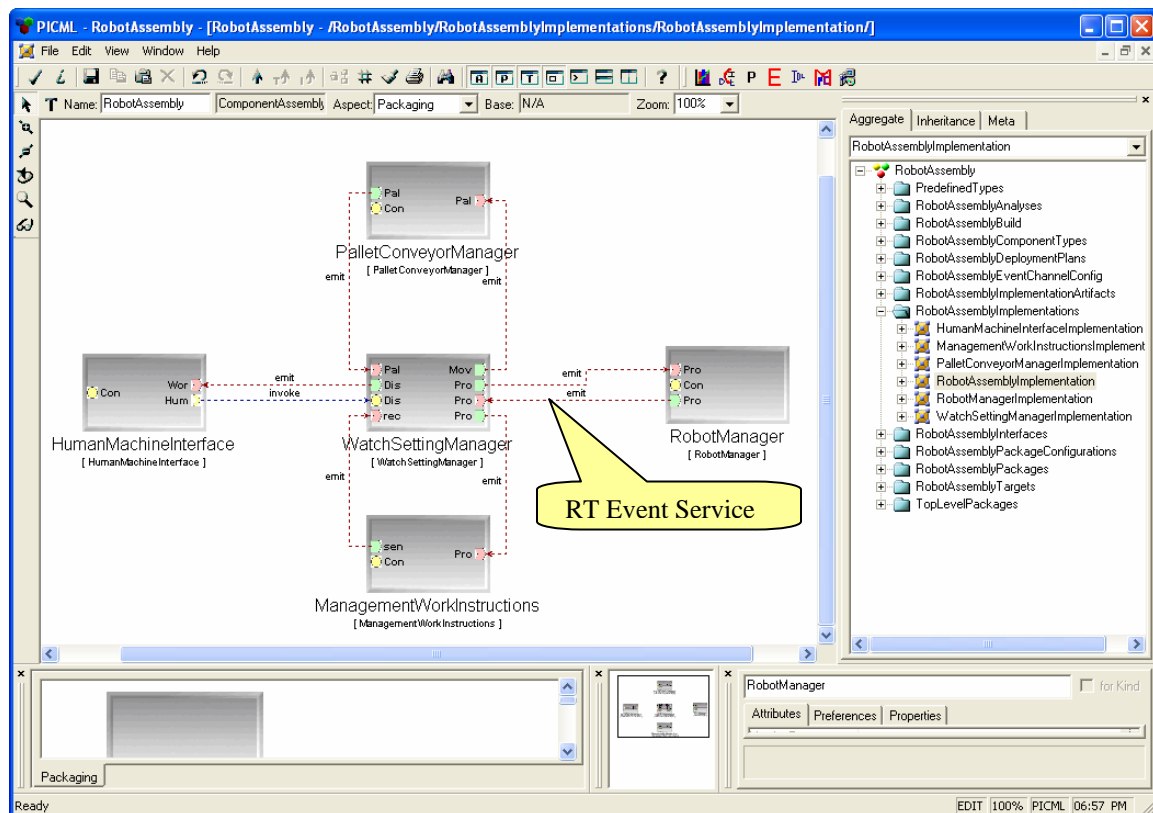
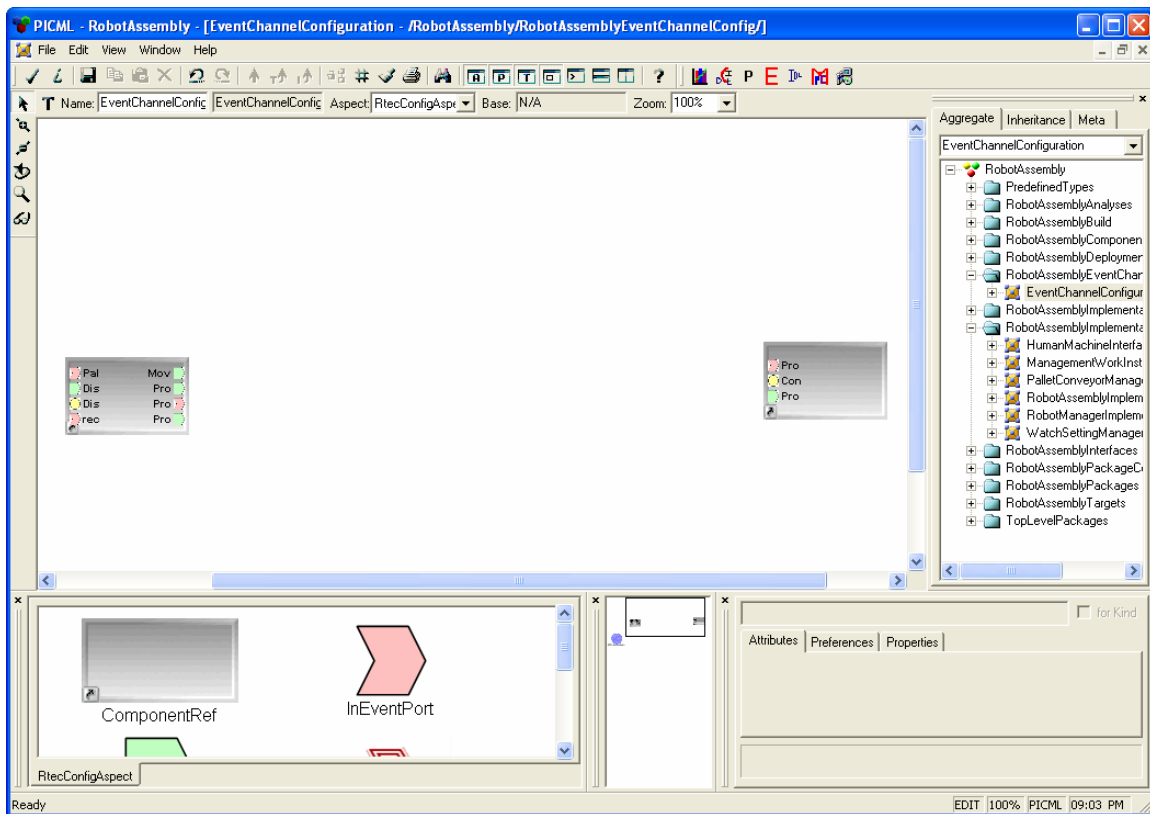

Figure 1: RobotAssembly Implementation paradigm sheet for the assembly
Figure 3: Copy component and paste as component references
**Step 1:** Go to the ComponentImplementations folder, and then open the paradigm sheet for the component assembly implementation of your application. This paradigm sheet shows the component instances and how they are interconnected with each other, such as the one illustrated in figure 1.
**Step 3: Create Component References.** Go to the assembly implementation paradigm sheet as shown in Figure 1, copy the components which you want to setup by using the real-time event service. For example, in Setup Phase, we specified that we wanted to set up the real-time event service between components RobotManager and WatchSettingManager with the *ProcessingStatus* event port, then copy the RobotManager and WatchSettingManager components. (Please refer to GME manual for how to copy model elements.) After this is done, go back to the EventChannelConfiguration paradigm sheet, and then paste the components **as reference**. This is illustrated in Figure 3.